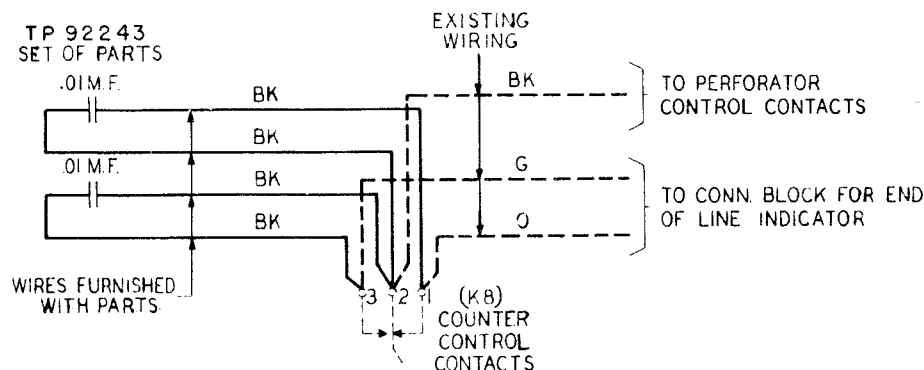

Figure 1
2.02 Refer to Figure 1 and connect the capacitors of the TP92243 set of parts as follows:
- (1) Cut each of the two capacitor leads which are equipped with terminals to a length just sufficient to allow slack for extreme adjustment of the counter-control contacts and skin the ends of the leads.
- (2) Connect both of these leads to the middle terminal of the counter-control contacts.
- (3) Cut the upper lead of the vertically mounted capacitor to a length just sufficient to allow the counter-control contacts to be adjusted to their extreme position, skin the end and connect the lead to the left terminal of the counter-control contacts.
- (4) Cut the front lead of the horizontally mounted capacitor to a length just sufficient to reach the right-hand terminal of the counter-control contacts if the contact assembly were adjusted to its extreme position, skin the end and solder this lead to the right-hand terminal.
- (5) Check the connections to see that they are in accordance with Figure 1.